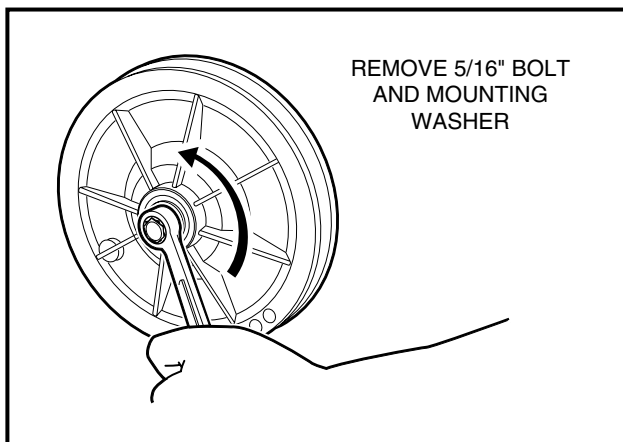

FIGURE 10-31
15. Use a 1/2" wrench to remove the driven clutch retaining bolt and then remove the driven clutch from the unitized transaxle (**Figure 10-31, Page 46**).